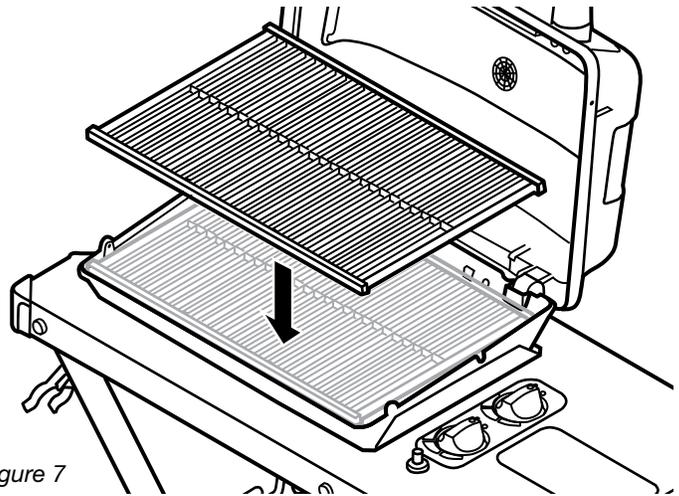

figure 7
Install ⑧ Cooking Grate as shown in figure 7.